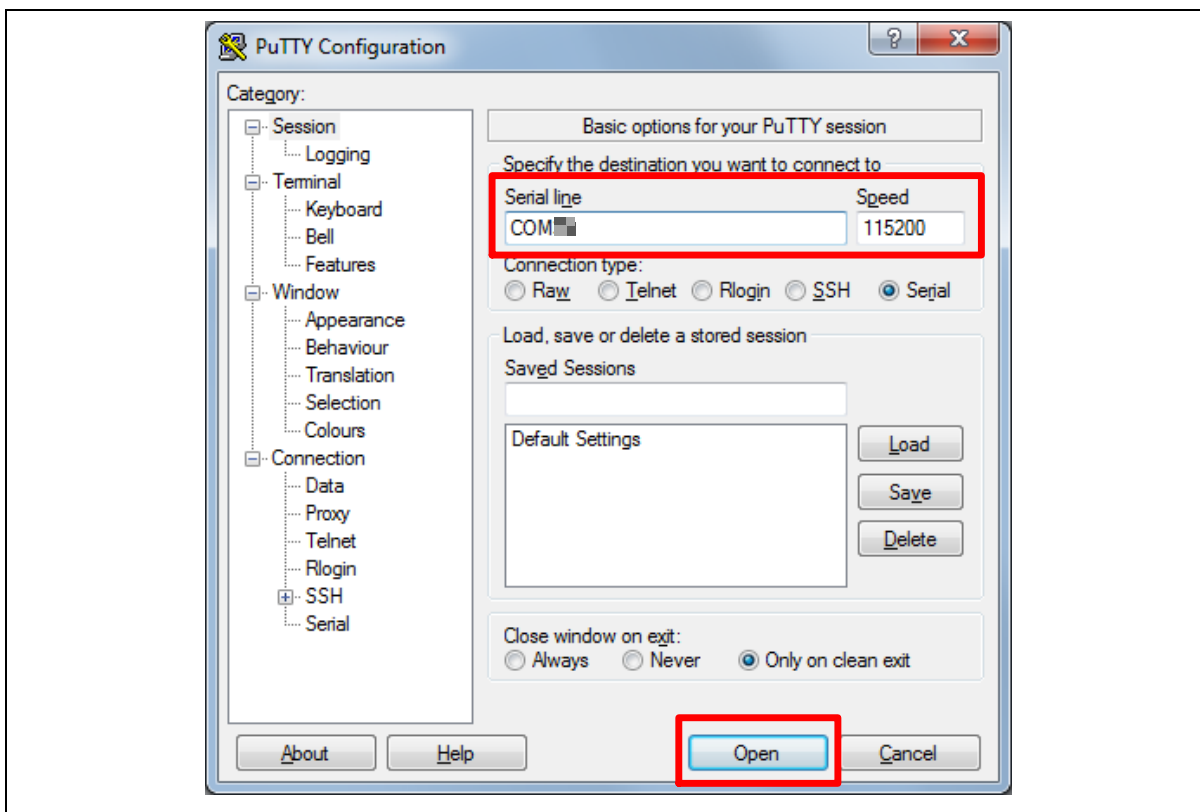

Figure 4-6 PuTTY Session Setting
4. Open a serial port terminal, PuTTY for example, to print out debug message. Set the speed to 115200. Figure 4-6 presents the PuTTY session setting.